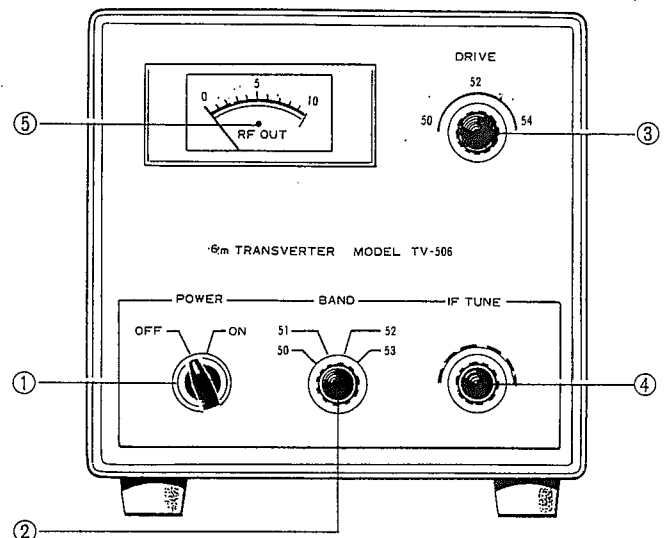

Fig. 2 Front Panel
2.1 FRONT PANEL (SEE Fig. 2)
- ① **POWER SWITCH**